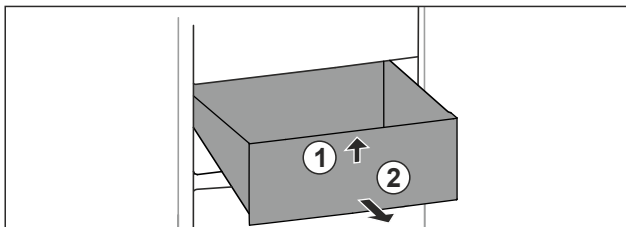

Fig. 93
- ▶ Lift up drawer at the front. Fig. 93 (1).
- ▶ Remove drawer to the front. Fig. 93 (2).